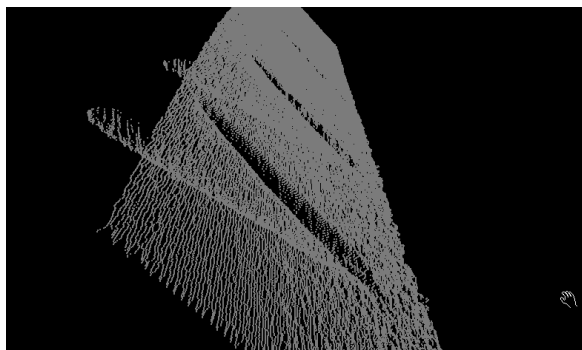

Figure 4: The partial surface of cooling hole ID is shown as protruding below the turbine blade surface
A **portion of the cooling hole inner diameter (ID)** is obtained from the same data set (Figure 4).